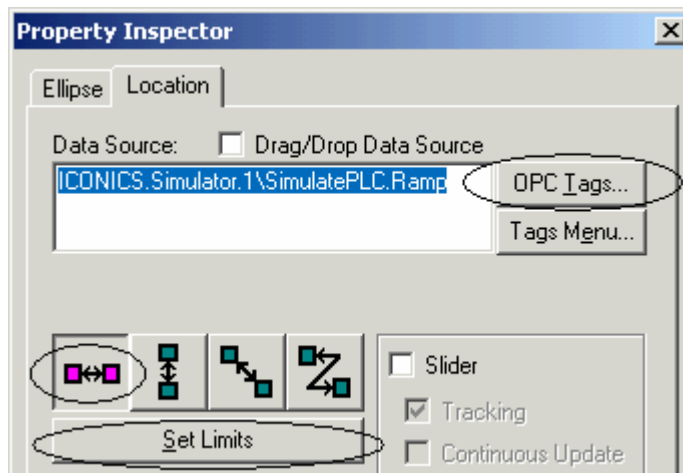

Figure 5.16. Location Dynamic Property Inspector
4. The **Property Inspector** for the **Location/Slider Dynamic** appears, as shown in **Figure 5.16**. The **Ellipse** tab refers to the visible object to which this dynamic is attached. Setting up the location dynamic is a simple three-step process if you click on: